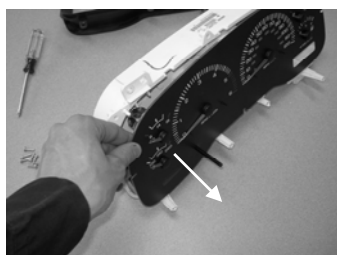

Figure 6
6. Carefully remove the OEM graphic & gauge assembly by pulling it evenly away from the circuit board & housing assembly. (See figure 6)